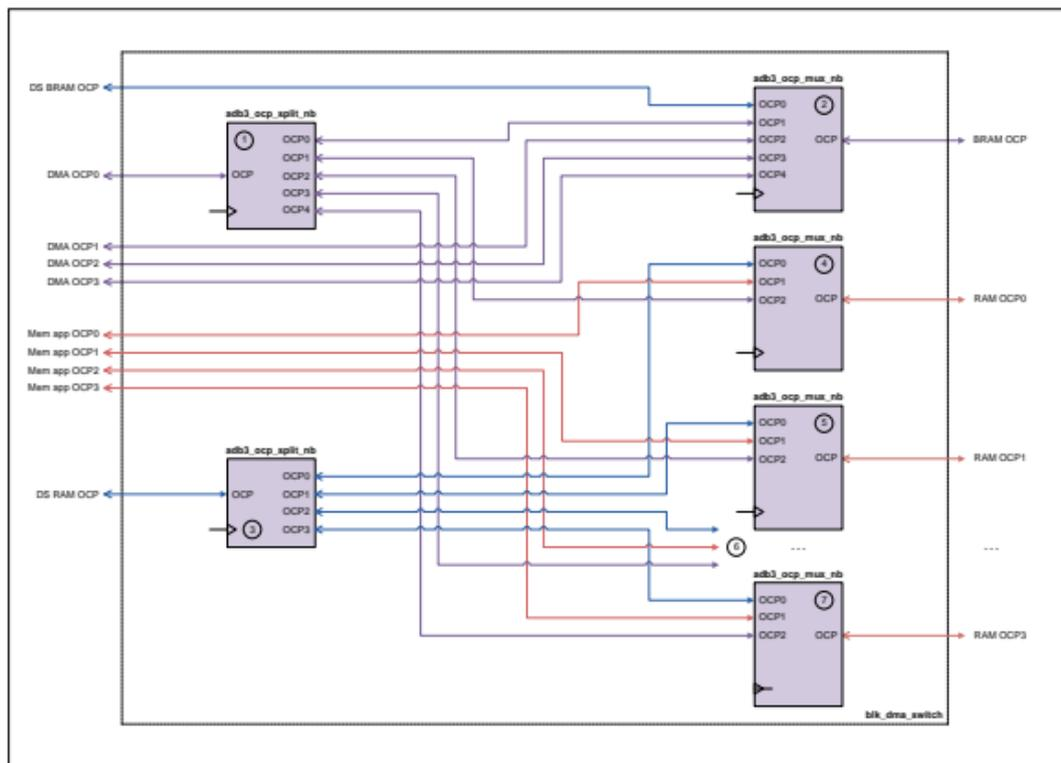

Figure 13: Uber OCP Switching Block
This block is implemented by **hdl/vhdl/examples/uber/common/blk\_dma\_switch.vhd** and its purpose is to connect together the various OCP channels in the **Uber** design in a useful way. A block diagram of the OCP switching block is shown in **Figure 13**.
Referring to item 1 in Figure 13, this instance of `adb3_ocp_split_nb` splits the Direct Slave on-board memory OCP channel into multiple secondary OCP channels, according to the address map in Table 71 below. The address map is defined by the the constant `DS_DDR3_ADDR_RANGE_TABLE` in the `uber_pkg` package.
Referring to item 2 in Figure 13, this instance of `adb3_ocp_mux_nb` multiplexes all OCP channels which require to be connected to the **BRAM block**:
Referring to item 3 in Figure 13, this instance of `adb3_ocp_split_nb` splits DMA OCP channel 0 into multiple secondary OCP channels according to the address map in Table 72. The address map is defined by the constant `DMA_ADDR_RANGE_TABLE` in the `uber_pkg` package.
Items 4, 5, 6 and 7 in Figure 13 are instances of `adb3_ocp_mux_nb` whose purpose is to enable multiple OCP channels to access the the on-board memory banks: